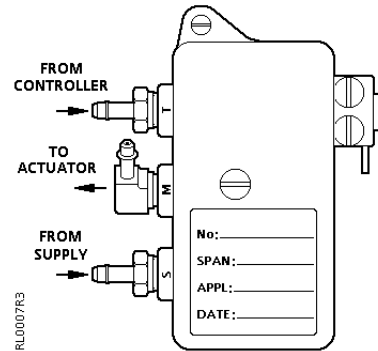

Figure 3. Mounting Relay Ports.
10. Make pneumatic piping connections to the actuator and relay. The "S" Port is the air supply port. The "M" Port goes to the connector (11) on the actuator. The "T" Port is the signal from the controller. See *Figure 3*.
11. Place the calibration label on the cover as shown in *Figure 3*. Mark for reference. (Optional) Attach the relay cover if you are not calibrating immediately.